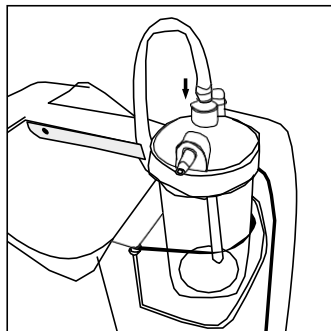

Figure 6
- D. Connect the other end of the humidifier connector tube to the top of the humidifier, as shown in the Figure 6.